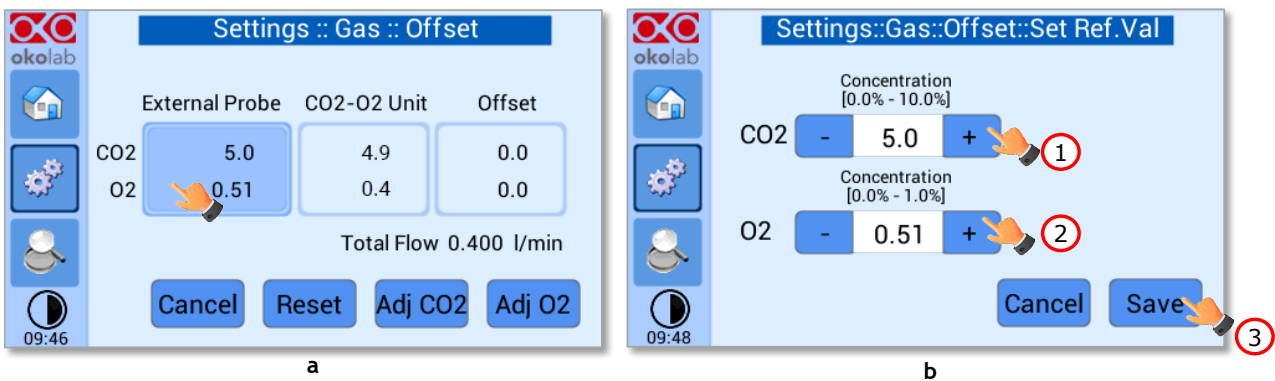

Figure 33. Offset Calibration – start (a – b).
2. Press on the *External Probe* Tab (as shown in Figure 33, a) in *Offset* page on the OKO-TOUCH display. Press on +/- icons to input the CO2 (1 in Figure 33, b) and O2 (2 in Figure 33, b) levels read by the external meter (i.e. 5.0% for CO2 and 0.51% for O2), then press *Save* to continue (3 in Figure 33, b).